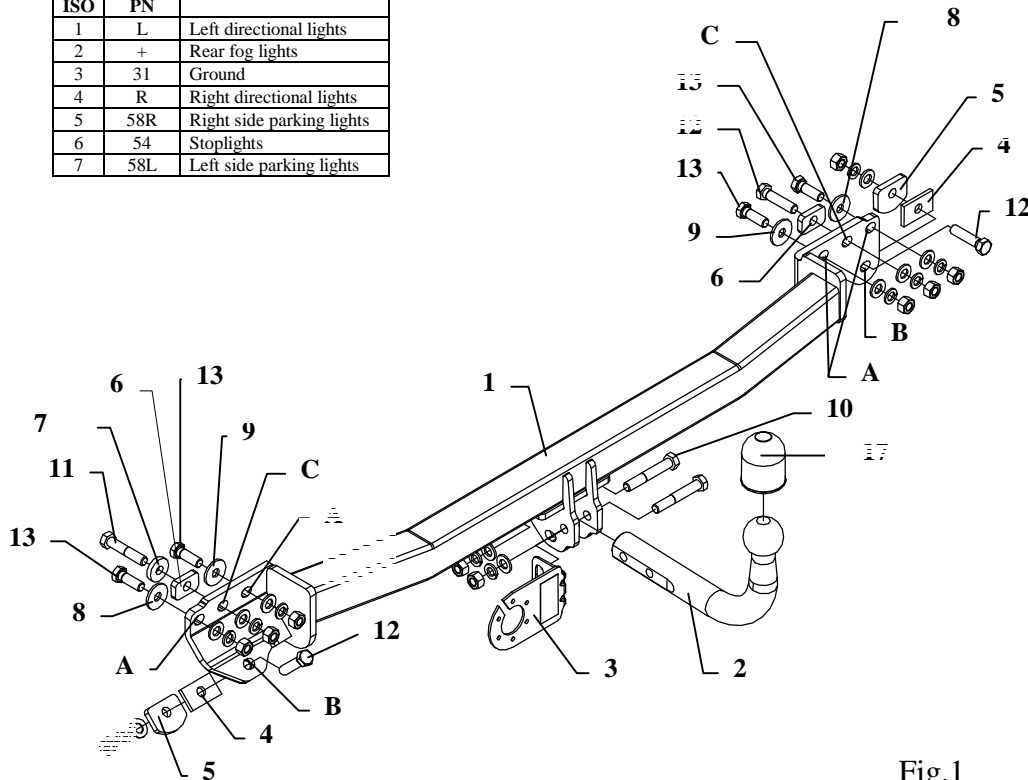

Fig.1
2. Put towing hitch (pos. 1) to rear part of car in that way so holes (pos. A) agree with protruding pins and holes (pos. B) with original tow brackets. In point (pos. B) fix using bolts M12x50mm, use washers (pos. 4 and 5). NOTE! Tight close towing hitch to rear part and tow brackets.
4. Fix towing hitch through drilled holes – see fig. 1 (use distance washer (pos. 6) in point C).
6. Fix tow-ball (pos. 2) and socket plate (pos. 3) using bolts M12x75mm (pos. 10) from equipment.